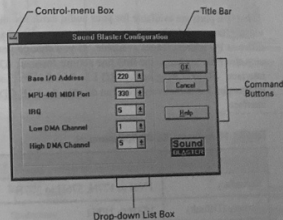

Figure 3-12: The Sound Blaster Configuration dialog box.
1. Double-click the SBConfiguration icon in the audio card's group window. The Sound Blaster Configuration dialog box similar to Figure 3-12 appears.